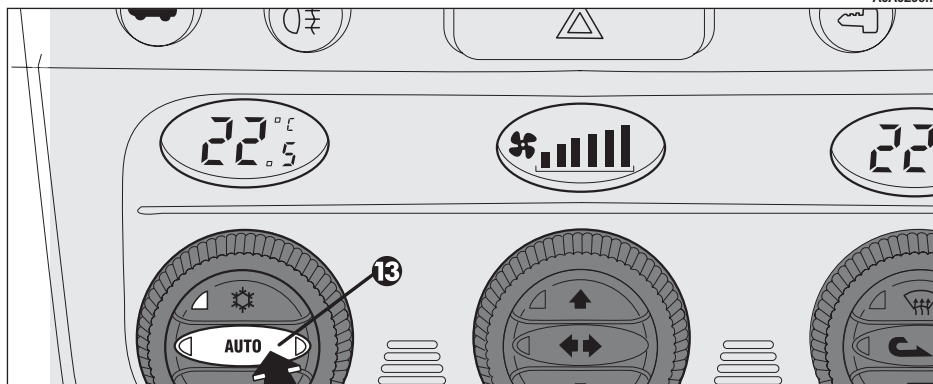

fig. 88
*In certain weather conditions (e.g.: outside temperature around 0°C) and with automatic air re-circulation control on, mist may form on the windows. In this case press the inside air re-circulation button (8) , to switch off re-circulation (leds on button off) and if necessary increase the flow of air to the windscreen.*
**AUTOMATIC OPERATION AUTO BUTTON (fig. 88)**